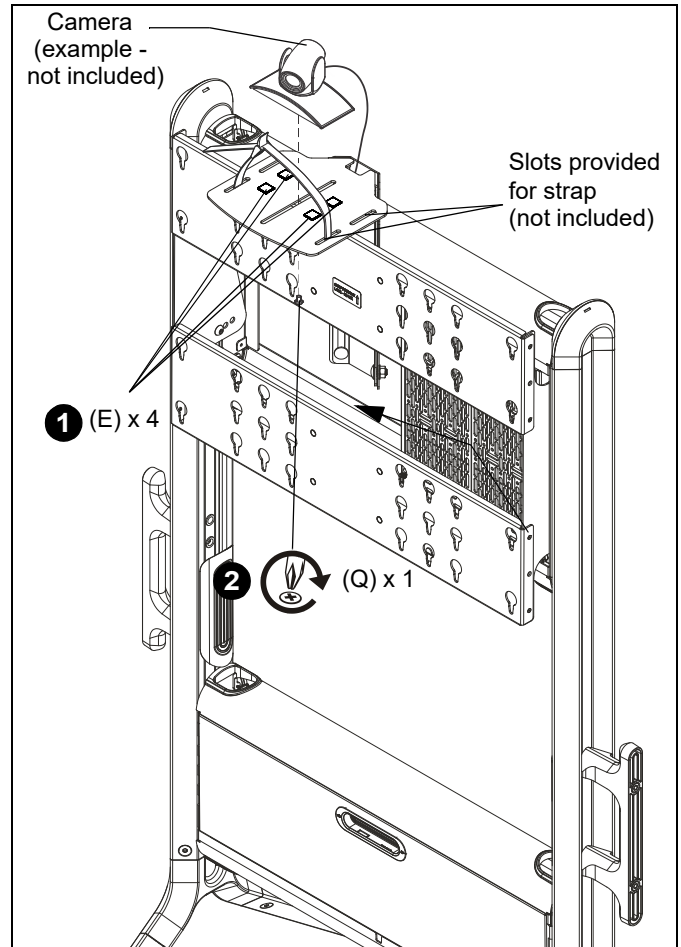

Figure 4
NOTE: OPTIONAL: Slots are provided in shelf for strap (not included) to hold camera in place. (See Figure 4)
2. Install 1/4-20 x 3/8" Phillips pan machine screw (C) through mounting slot on shelf and into hole on bottom of camera. (See Figure 4)
3. Route cable from camera towards back of shelf and down behind the SCAC. (See Figure 4)